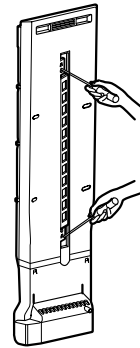

Figure 3
▶ Right Door -FIG. 3
1. Remove the upper and lower caps with a flat screwdriver and remove 2 screws. (Figure 3)